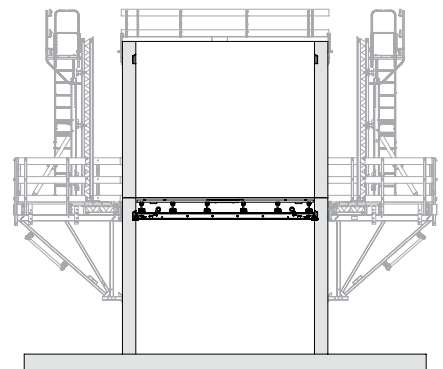

Fig. A4.03
3. Retract the external formwork. (Fig. A4.03)
2. Climb the external platform to the next concreting section. (Fig. A4.03)